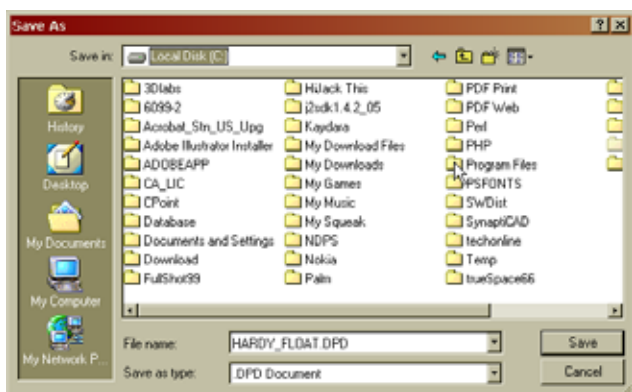

FIG. 219: SAVE AS DIALOG BOX/SELECTING PROGRAM FILES
Step 10. Click on the Save button. (See Fig. 218) The “Save As” dialog box appears. (See Fig. 219)